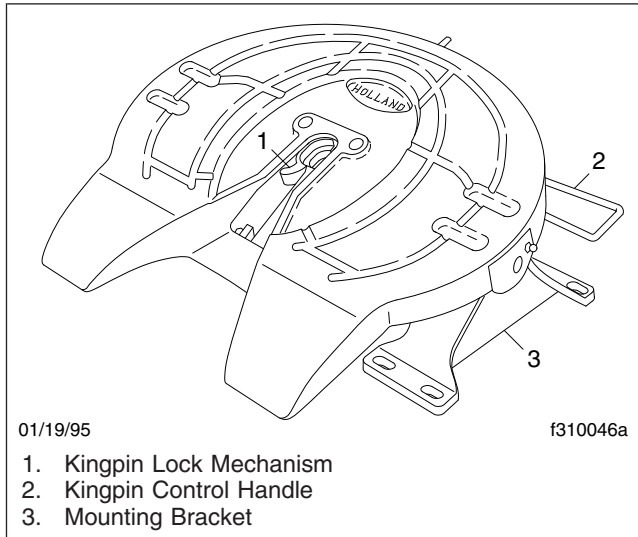

Fig. 10.1, Holland Fifth Wheel
The 2535 sliding fifth wheel models incorporate a Model 3500 fifth wheel (**Fig. 10.1**), equipped with either an air-operated release slide, or a manual release slide. Sliding fifth wheel assemblies are mounted on a baseplate that permits forward and rear movement along notched rails. Plungers are meshed into teeth on the baseplate to lock the sliding mechanism. Disengagement of the sliding member is accomplished when the plungers are withdrawn (manually or air-operated), releasing the fifth wheel assembly so that it can be positioned for optimum weight distribution over the tractor axles.
6. Release the kingpin locking mechanism by pulling the kingpin lock control handle (Fig. 10.1) to the outward position.